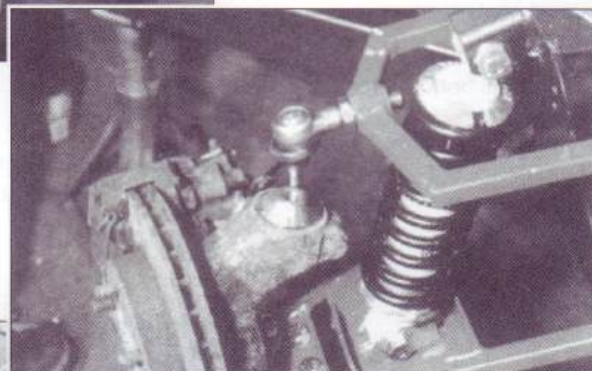

Fig.2n. Camber angle at zero on full droop.
13. The front camber angle is adjusted by means of the screw thread on the upper ball joint. Set the camber angle to zero when the suspension is at full droop as shown in fig.2n. The camber automatically increases as the suspension is loaded.